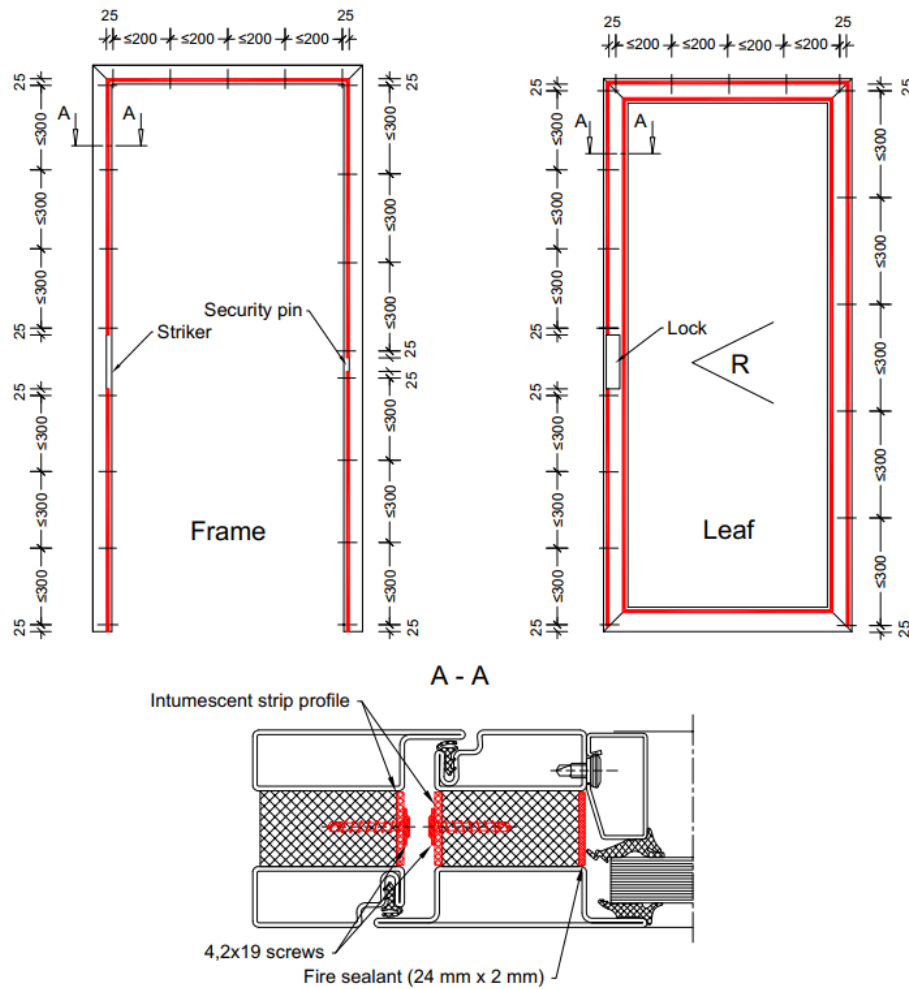

Figure 4 Installation of fire sealants
8. Install intumescent strip profile onto the frame. The surface must be first cleaned of dust and dirt with cleaning agent and cleaning paper, especially the surfaces of the ends of the seal and inner corners of the frame. Make sure the seal is glued properly, fix the seal with 4.2x19 mm screws according to the screw pitch shown in Figure 4.
If the product is not glazed, then clean the dust and dirt from the glazing opening with cleaning agent and cleaning paper and install fire sealant (24 mm x 2 mm) (Figure 4). Glass installation is described in the section 2.4.